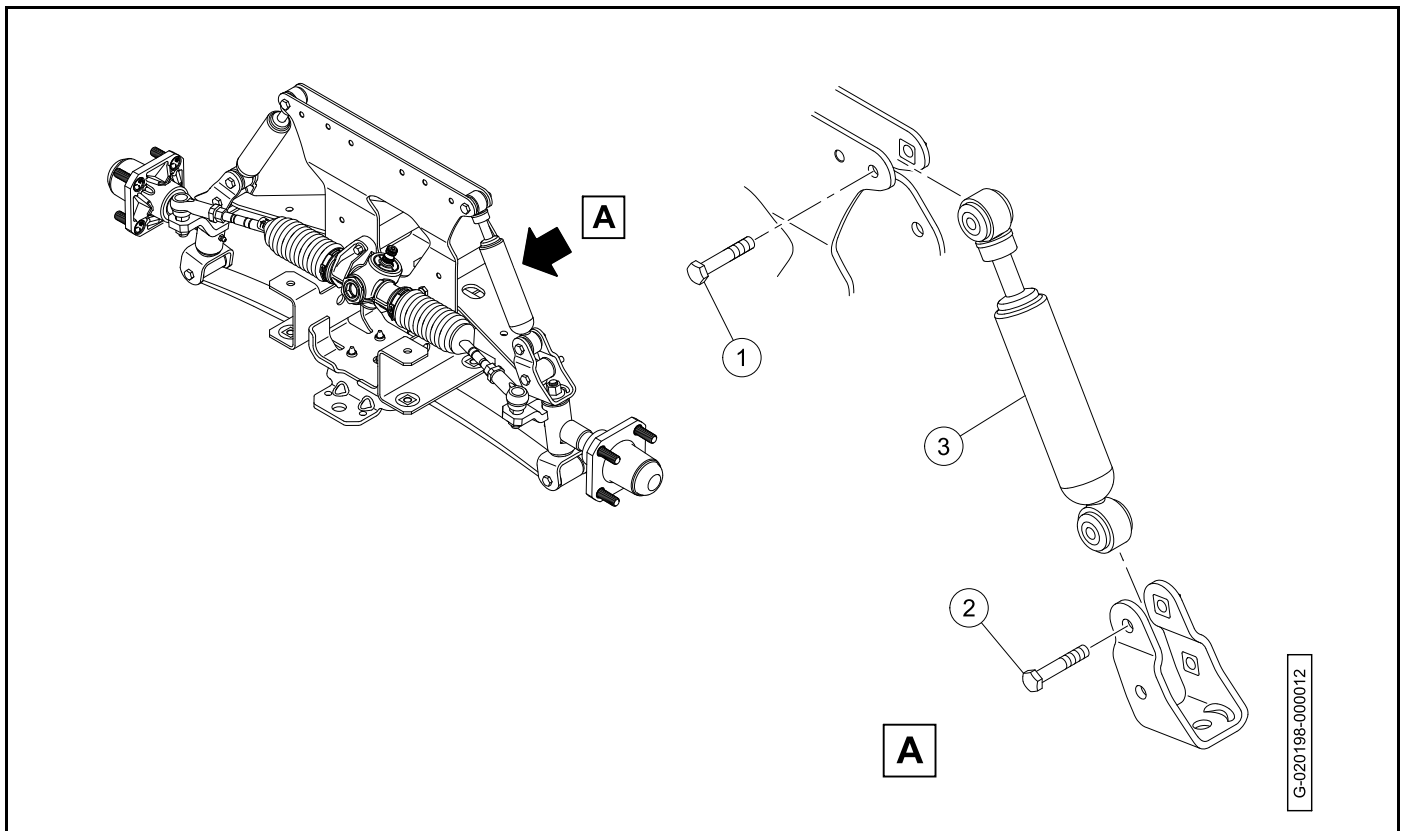

Figure 7-35
3. Remove the upper bolt (1) (Figure 7-35).
1. Make sure that the front shock absorbers (3) have the same part number (**Figure 7-35**).